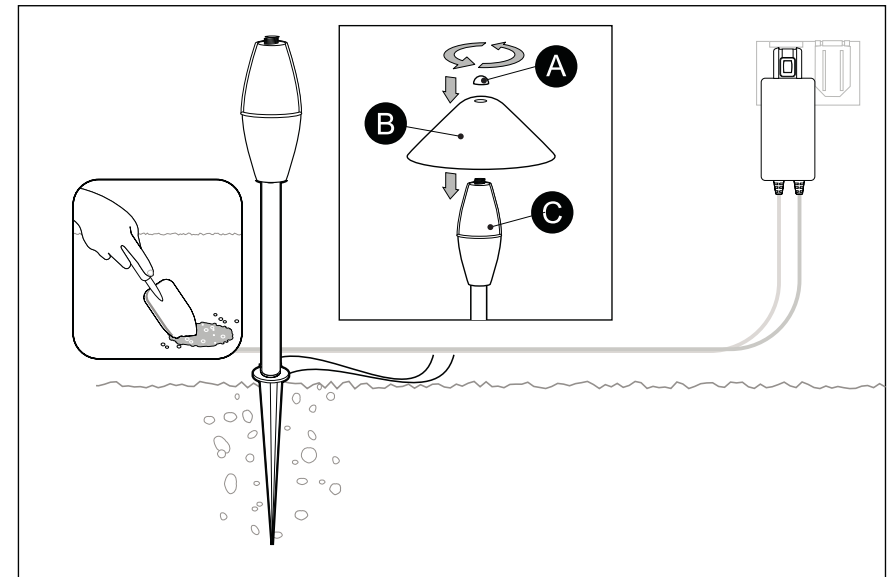

Fig. 2
2. Loosen ground with a shovel and/or soften soil with water. Press stake into ground. Do not press directly on fixture while installing. Attach fixture to power cable (see recommended accessories). (Fig. 2)
3. Unscrew cap nut from lamp head. Install lamp shade, then reinstall cap nut, do not over tighten. (Fig. 2)